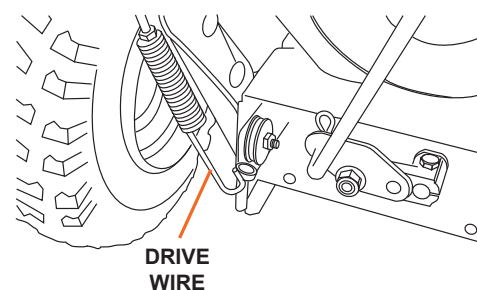

Figure 2
2. Attach the drive wire on the left side of the snow blower (see Figure 2). Remove the R-Clip that connects the drive wire to the control lever on the handlebars, then slip the wire off. Attach the other end of the drive wire with the spring mechanism to the connection ring and reattach the drive wire to the control lever reinserting the R-clip. After connecting the wire adjust the tension. The wire should be taught when connected. (See Control Wire Adjustment, page 23).